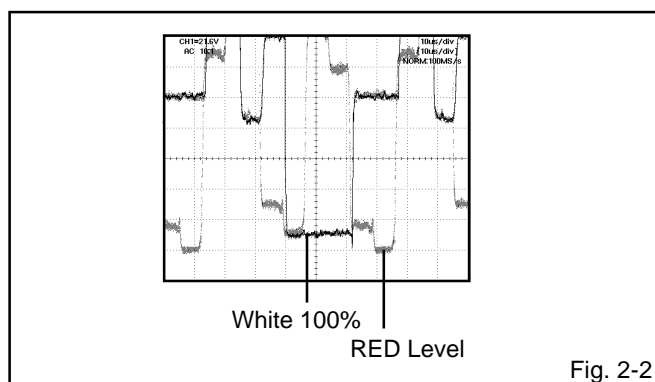

Fig. 2-2
9. Press the VOL. UP/DOWN button on the remote control until the red color level is adjusted to  $115 \pm 10\%$  of the white level. (**Refer to Fig. 2-2**)